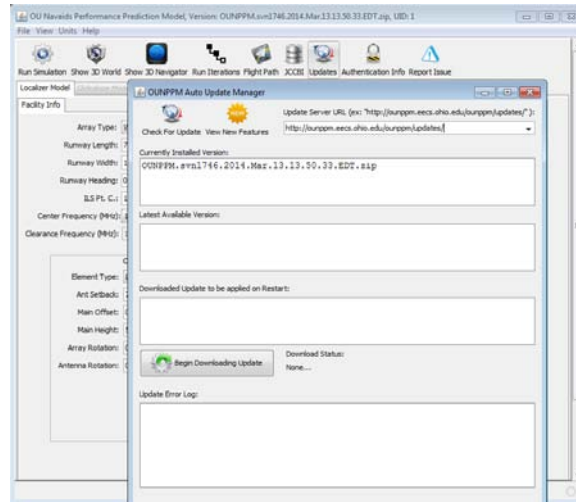

Figure 83: Clicking on the *Update* button from the main tool bar at the top of OUNPPM will open the Updater Window.
1. Click on the *Update* button from the main tool bar at the top of OUNPPM. This will open the Updater Window as shown in Fig.83.